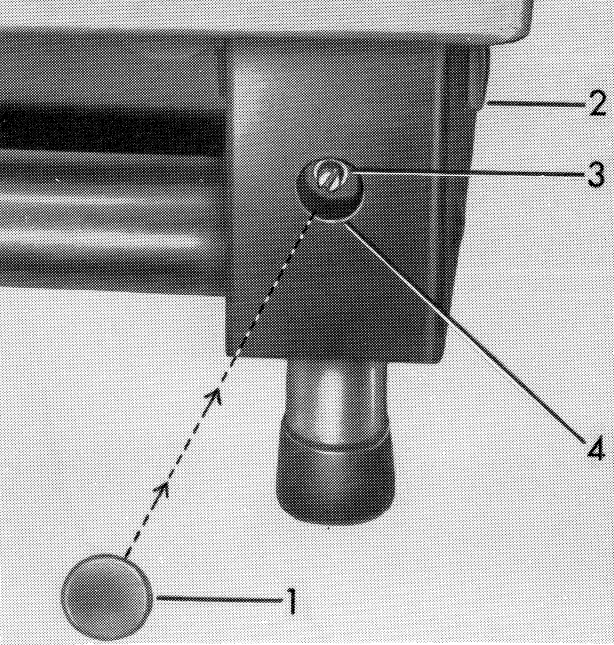

Figure 5—Elevating Leg
- Remove the Plug Buttons (1, Fig. 5) from each side of the Base.
- Release Elevating Lock Handle (2, Fig. 5) by turning handle counterclockwise.
- Turn Adjusting Screw (3, Fig. 5) with a screwdriver clockwise to tighten and counterclockwise to loosen the leg lock.